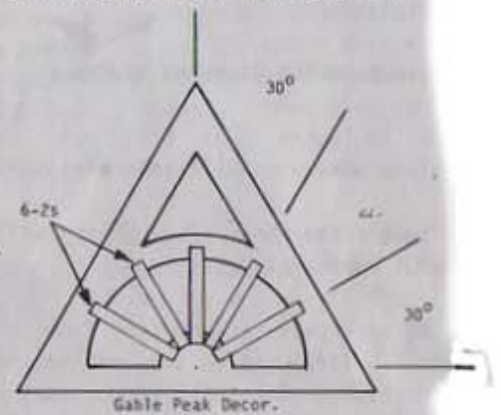

Figure 14
11. Locate Porch Front, Porch Side Tops, Window Box Top, and Gable Peak Decors. (LF-5,6,7) Lay parts with the good sides down. Cut glue 6-2s to these parts as in Figure 14.